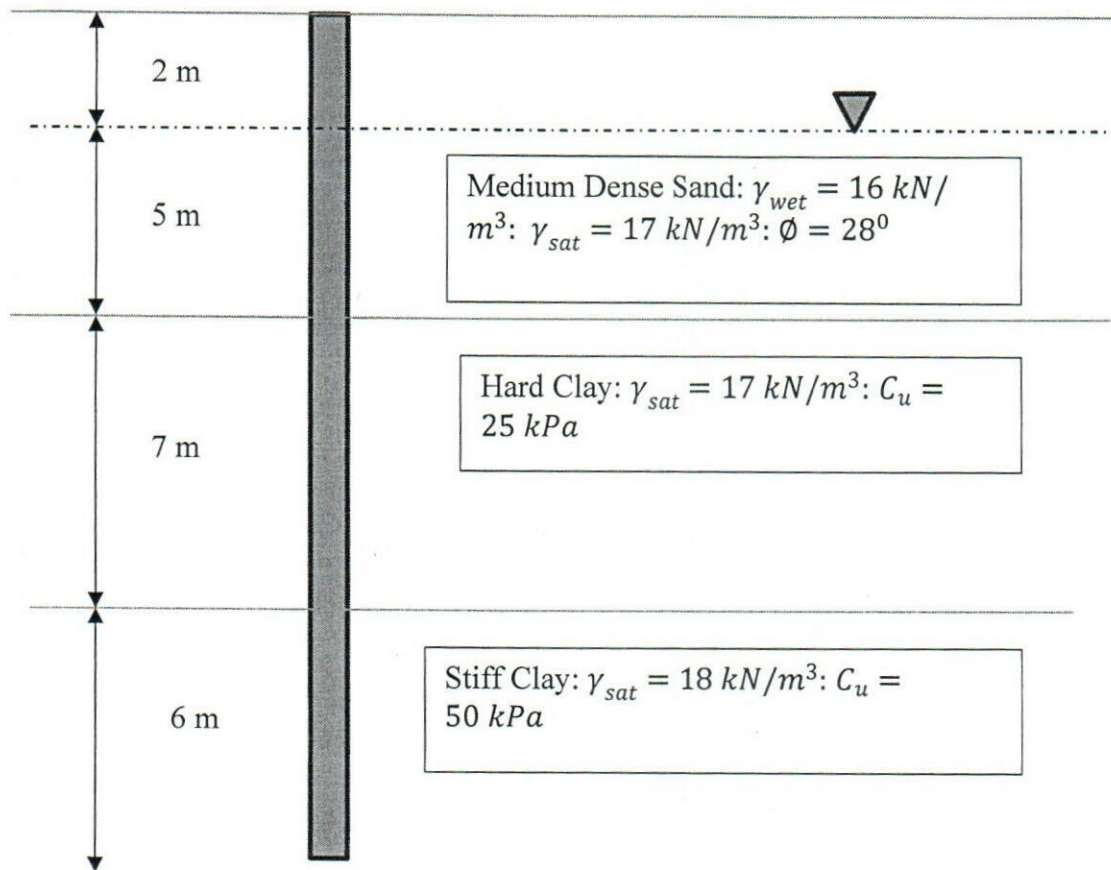

Figure Q 2.1
- (b) A 1500 mm diameter, 20 m long bored pile is installed as a single pile through the subsurface shown in Figure Q.2.1. The groundwater table is present at 2 m below the ground surface, and the unit weights and strength properties of the different soil layers are also given in the same figure. Determine the net ultimate bearing capacity of the pile. (Consider $c_a = c_u$) 50%